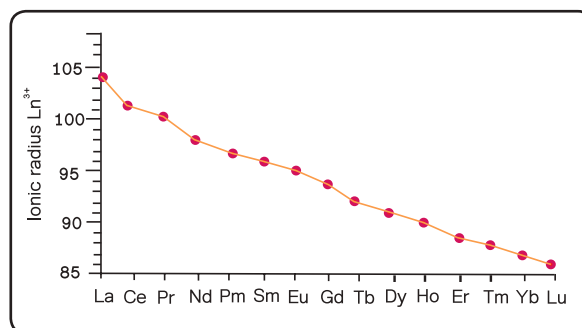

Fig. 8.6 : Ionic radii of lanthanoids in +3 oxidation state
8.12.4 Atomic and ionic radii (Lanthanoid Contraction) : As we move along the lanthanoid series, there is a decrease in atomic and ionic radii (Fig.8.6). This steady decrease in the atomic and ionic radii is called Lanthanoid contraction. As we move from one element to another the nuclear charge increases by one unit and one electron is added. The new electrons are added to the same inner